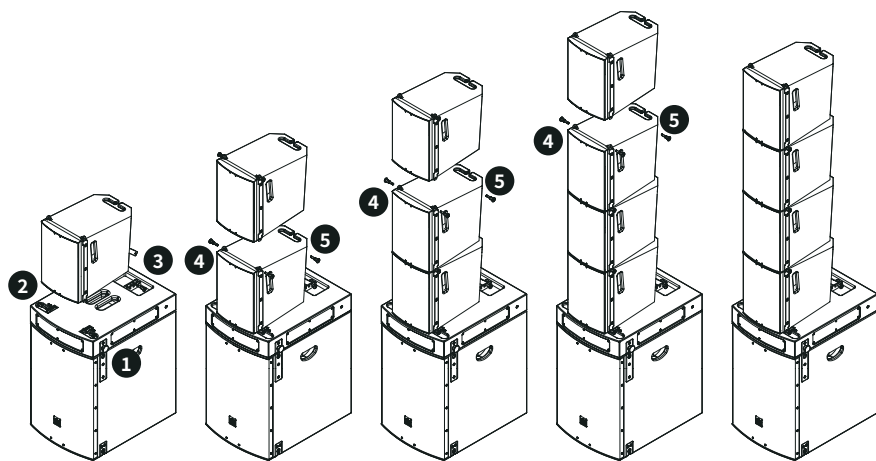

Figure 12. Installation of stacked arrays with the M-F3A S12 PRO SFi and M-F3A S15 PRO SFi frame.
2. Place the first M-F3A or M-F3A PRO unit over the stacking frame. Fasten the two lower front rigging points of the box with the security pins of the frame. See figure 12.
7. Repeat the three previous steps to install more M-F3A or M-F3A PRO units on top of the first ones, as shown in figure 12. No more than 4 boxes should be stacked with this frame.